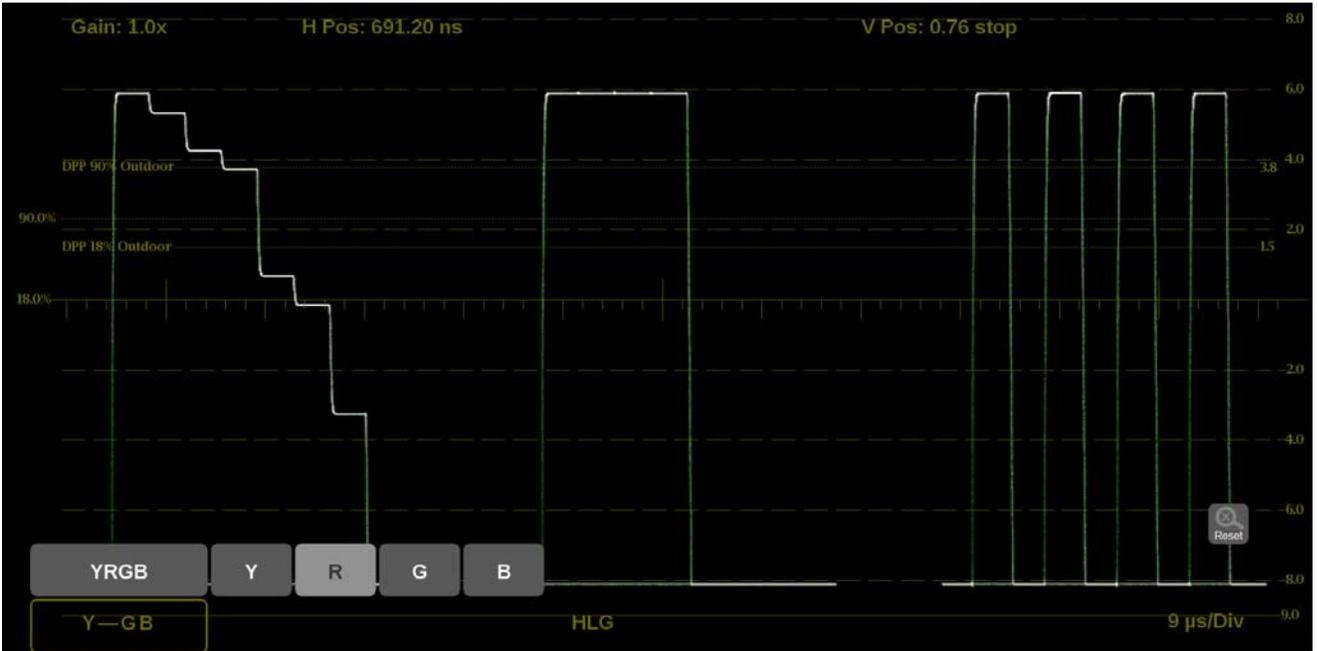

Figure 196: Stop Display on-screen tools – Display Mode
1. Select the button in the bottom left corner of the application to expand the available display options. (See Figure 196.)